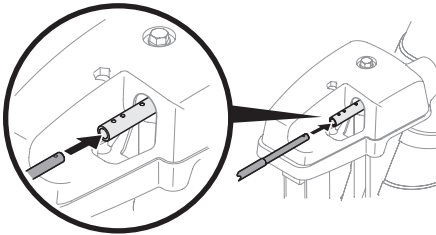

Figure 36
2. Insert round end of chute control rod into chute control head. Push rod as far into chute control head as possible, keeping holes in rod pointing upward (Figure 36).